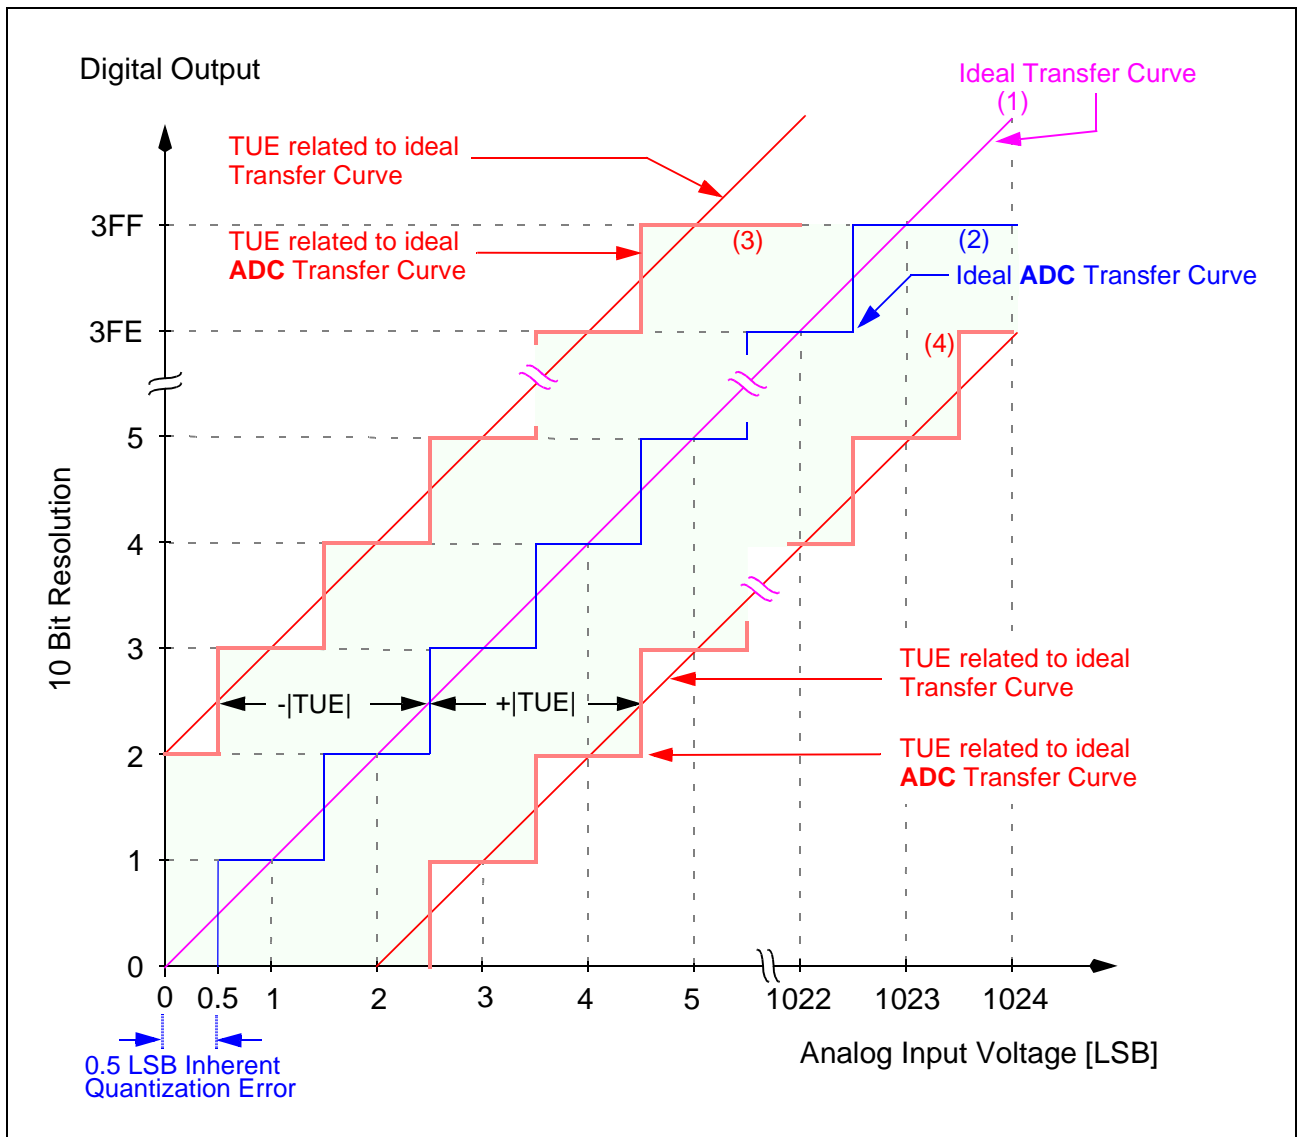

Figure 1 Ideal Transfer Characteristic
The resolution (r) of the A/D converter refers to the number of quantization levels, an analog input voltage can be determined to. This number of smallest levels is given in bits and one of them is an LSB. **Figure 1** shows an example of an A/D converter with 1024 quantization levels. This A/D converter has a 10-bit resolution. An input voltage of 5 V is quantized with a step size of $5 \text{ V} / 2^{10} = 4,88 \text{ mV}$.
Figure 1 defines the ideal transfer characteristic for an A/D converter. The Ideal Transfer Curve (1) transfers each input to an output.
The TUE consists of offset error, gain error, DNLE and INLE but it is not simply the sum of individually measured errors. Since some errors of the ADC, like offset and gain error, can compensate each other, the TUE can be far less than the absolute sum of all individual errors. **Figure 1** shows the definition of the TUE in relation to the Ideal ADC Transfer Curve (1).
The real result of the A/D converter is in the range of Ideal ADC Transfer Curve (2) \pm TUE. This area is shaded in **Figure 1** and is between both TUE related to ideal ADC Transfer Curves (3) and (4).